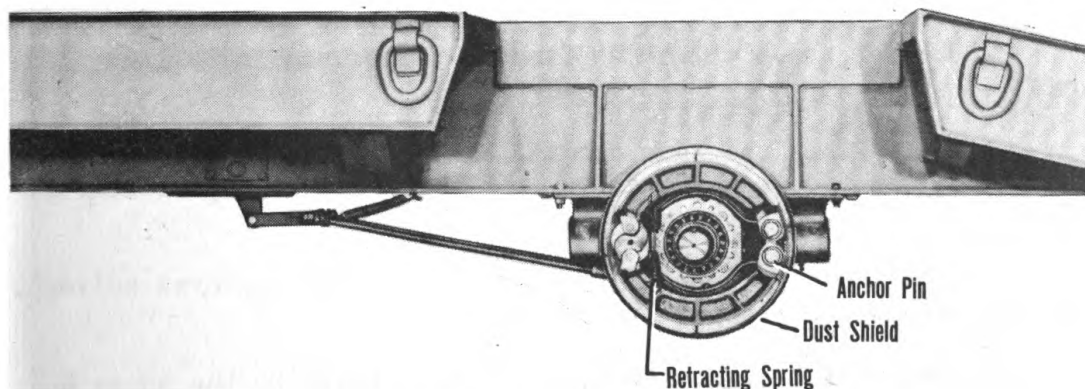

Figure 24—Rear Axle Brake Shoes
5. Remove the cap screws with lock washers that attach the dust shield assembly to spider and take off the shield. (See figure 24.)
c. Unhook and remove the brake shoe retracting spring (figure 24).